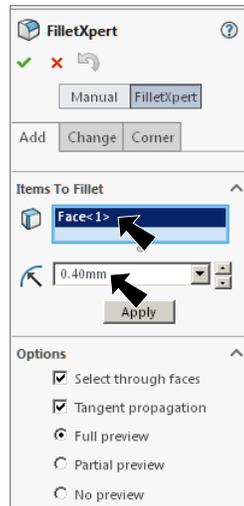

Fig. 5
Step 2. In the Fillet Property Manager: select **FilletXpert**, Fig. 5